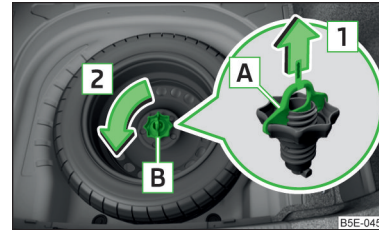

Fig. 210
The wheel is located in a well under the floor covering in the boot and is fixed in place with special bolt **B** » Fig. 210.
- Remove locking **A** in the direction of arrow **1** » Fig. 210.
- Screw in nut **B** in the opposite direction to arrow **2** » Fig. 210.